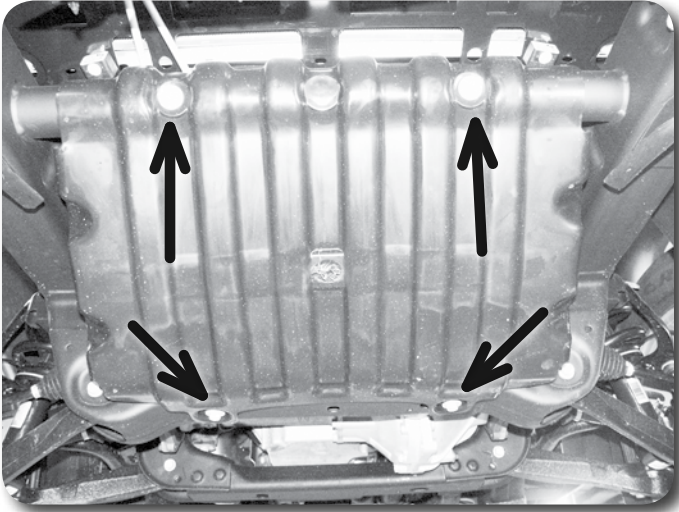

Figure 10
15. Remove the four bolts mounting the front skid plate to the frame **Figure 10**. Remove the skid plate from the vehicle. Save skid plate and bolts.